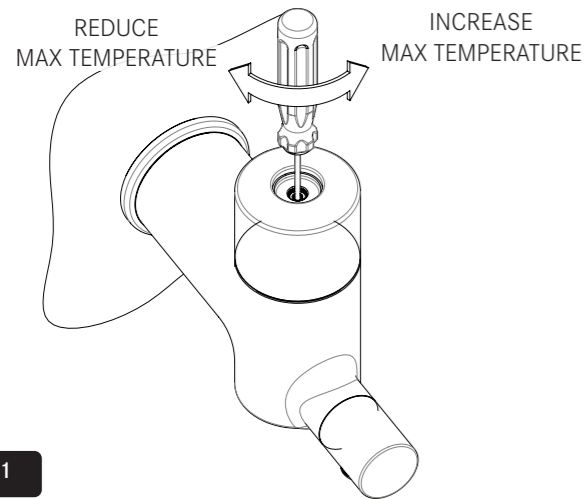

Fig 11
- Using a 4mm slotted screwdriver, insert through the hole and locate the setting screw (Fig 11).